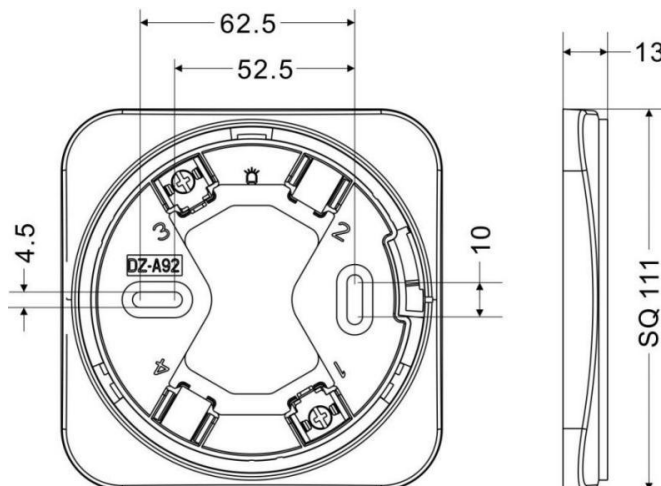

Fig.5
6.1 The installation of the audible and visual alarm requires a matching base, as shown in Fig.5, model DZ-A92. The external size is 111mm × 13mm(side length × thickness), the diameter of the fixed hole is 4.5mm, and the spacing of the fixed hole is 52.5mm ~ 62.5mm.
- a. Secure the base to the specified position using two M4 screws through the installation and fixing holes shown in Fig.5 according to the construction drawings. Ensure that the base is securely installed.